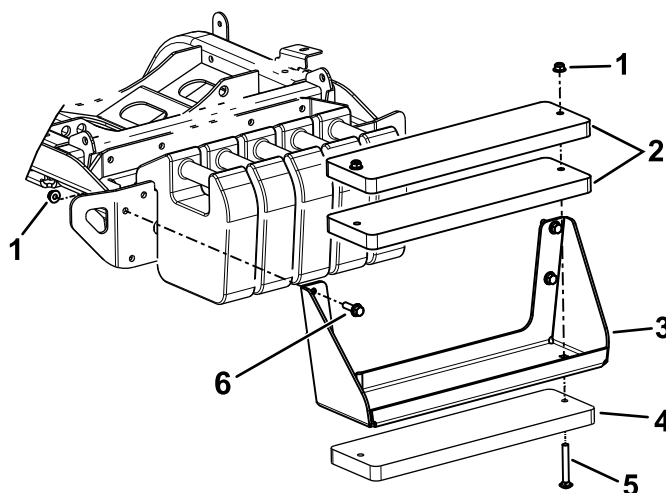

Figure 21
Note: Refer to Figure 21 for these steps.
- A. Use the bolts (3/8 x 4 inches) and nuts (3/8 inch) to secure the 3 weights to the bracket (Figure 21).
- B. Use the hex-head bolts and nuts (included in the kit) to secure the weight bracket to the machine (Figure 21).
- A. Remove the weight bracket from the machine (Figure 21).
- C. Use the bolts (3/8 x 4 inches) and nuts (3/8 inch) to secure the 3 weights to the bracket (Figure 21).
- D. Use the previously removed hardware to secure the weight bracket to the machine (Figure 21).